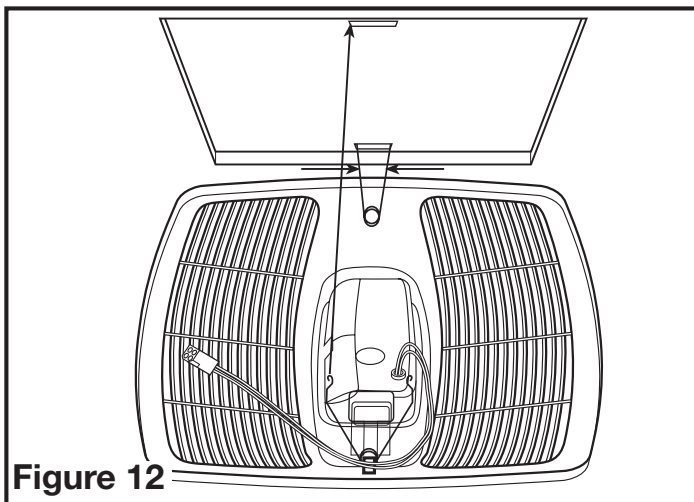

Figure 12
5. Install the grill by squeezing the springs together and installing it up into the slot furthest from the wire compartment on the fan's housing. Attach the 4 pin quick connect from the grill to the 4 pin connector on the top of the wire cover. The cord will only fit one way into the receptacle. Install the other spring and push the grill up into position. (Figure 12).